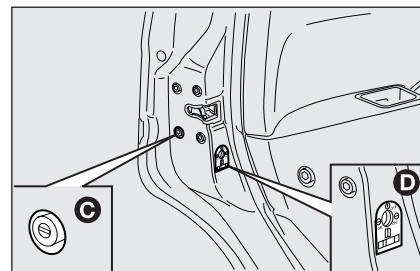

fig. 19
- ☐ cut-in of door lock device **C**-fig. 19 when the electric system is failing (e.g. run-down battery);
- ☐ cut-in of child lock safety device **D**-fig. 19 on rear doors.